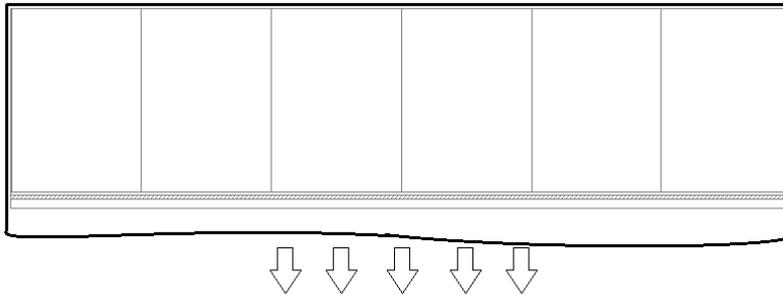
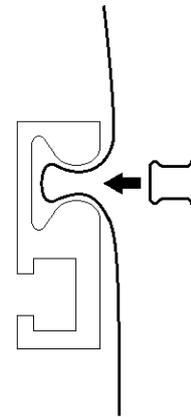

Fig120
Fig121
- **STEP 2:** Tension the polythene down to the base rail on one side starting in the middle – This is best done with one person at a hoop either side of centre (**Fig120**). Do not over tension, but when the cover is smooth from the ridge down to the rail, insert one of the plastic 'U' profiles into the cover slot on the rail (**Fig121**). A rubber hammer is preferred for this job as standard metal ones may crack the plastic profile.